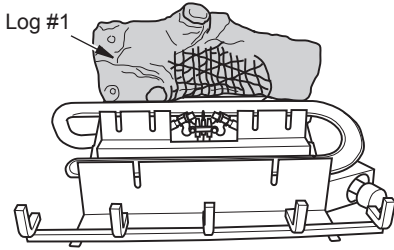

Figure 23 - Installing Log #1
1. Place log #1 onto rear grate bracket (see Figure 23).